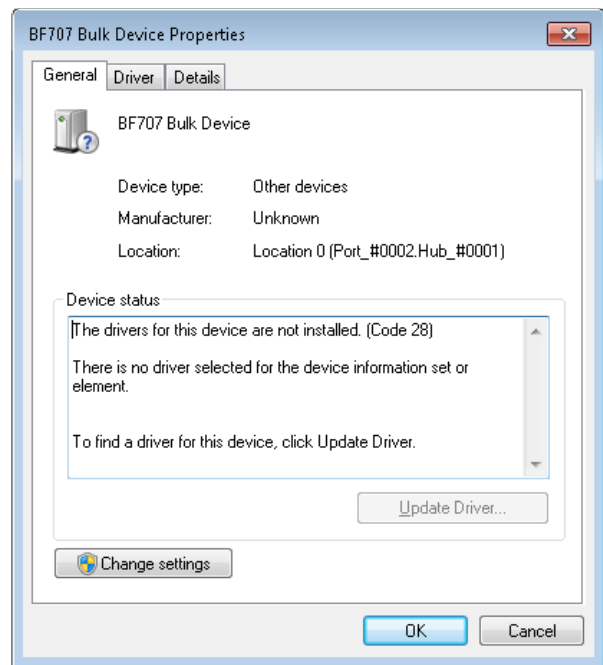

Figure 9. BF707 Bulk Device Properties Window
3. Click **Change settings** in the **BF707 Bulk Device Properties** window (see Figure 9). This action requires administration rights.